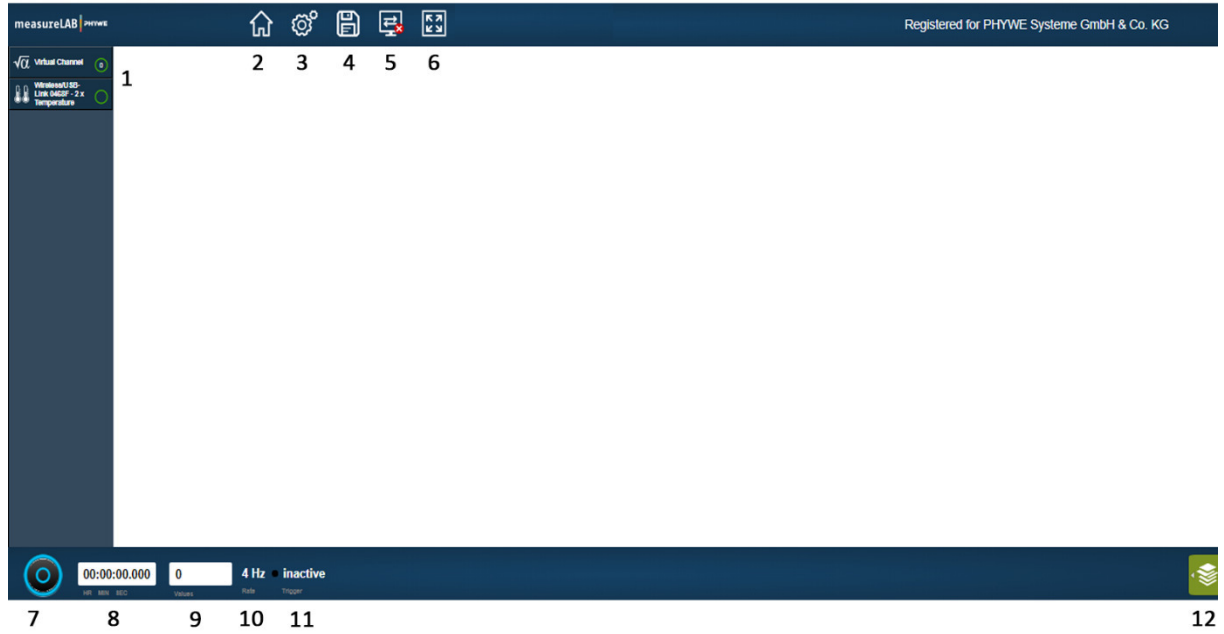
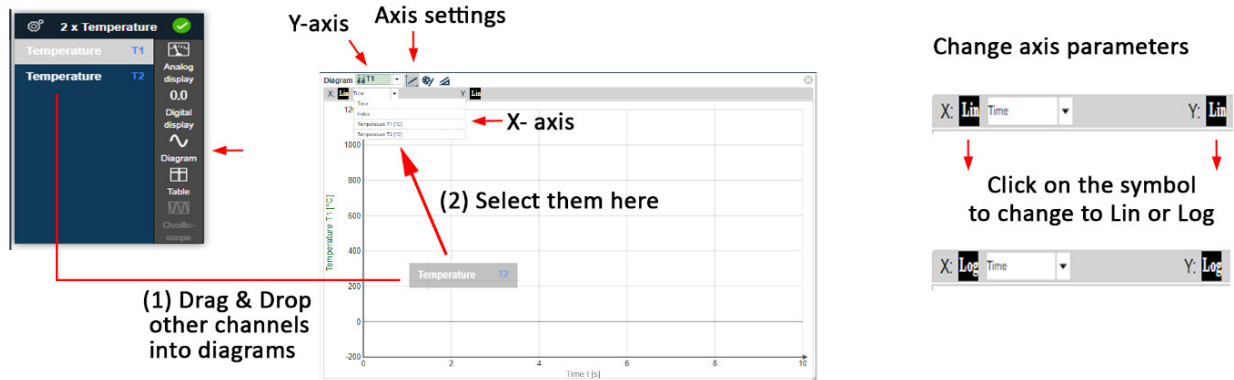

Figure 3: Explanation of basic functions in measureLAB
Figure 14: Diagrams in measureLAB - Axis settings
measureLAB offers a simple, intuitive user interface (Figure 3). On the left-hand side, you will find all connected sensors and the virtual channel option (1).
After completion of an individual measurement, the measurement files will be displayed in the data pool (left-hand side, green symbol, c.f. Figure 3). You can choose to display multiple data sets or a single data file in a table (Figure 12) or as diagram (c.f. 2.2.3 Diagrams, Figure 14).
To visualise your measurements, you can use the diagram options. Simply go to your connected sensor and select desired parameter or parameters (highlighted in light grey) and select the option 'Diagram'. After generation of a diagram, you can also add other parameters or virtual channels to the diagram by dragging and dropping into the diagram. Under **axis settings** (Figure 12), you can assign a parameter as y-axis or x-axis to display for example temperature against conductivity. To change the diagram display of the individual axes to either linear or logarithmic scale, click on the black symbol next to the X- or Y-symbol (Figure 14).